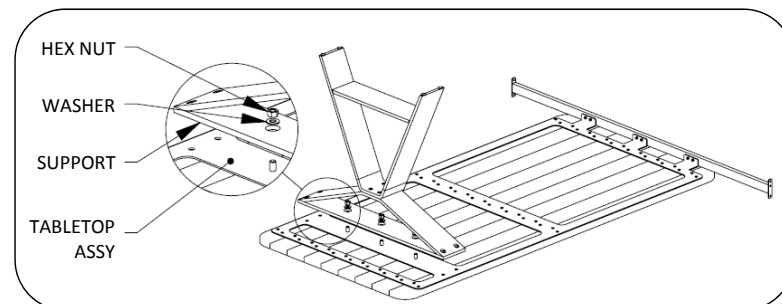

Fig. 2 – attach support to tabletop
2. Attach support leg to tabletop using (3) each 1/2-13 hex nuts and washers, see Fig. 2.
3. Move table assembly into position. Verify table is level and support leg is resting on the ground. Attach to Upfit posts using (4) #14 x 1" self-tapping screws (not included). Do not use stainless steel hardware to attach table to Upfit post.